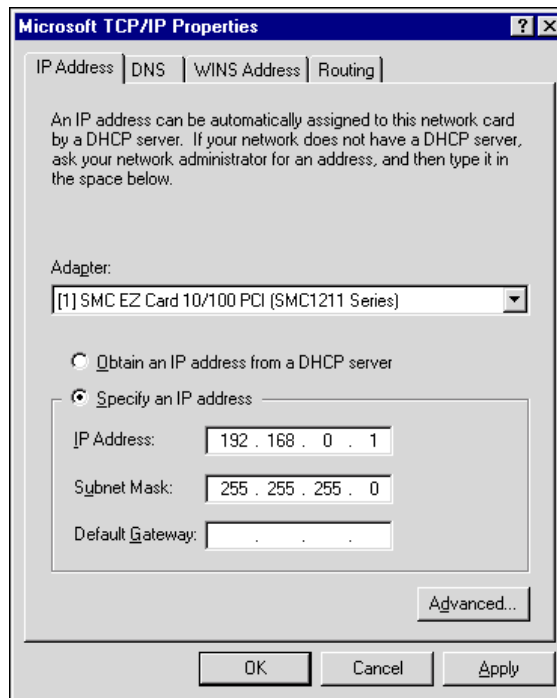

Figure 8. Microsoft TCP/IP Properties Dialog
- a. Highlight TCP/IP Protocol in the Protocols tab and click Properties. The Microsoft TCP/IP Properties dialog opens (Figure 8):
Note: The specific adapter(s) in the drop down list (Figure 8) will depend on the adapters actually installed on the PC and recognized by Windows.